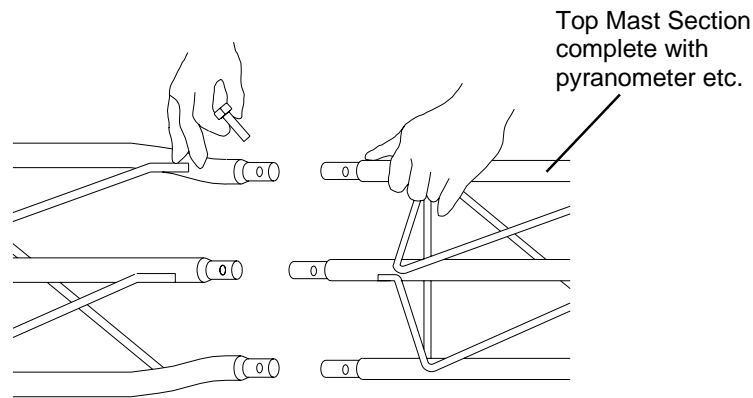

Figure 2-3 Attaching the Top Tower Section
6. Slide the whole top tower section into place on the main tower, and secure with the bolts supplied (see Figure 2-3). This will need to be done with extreme care in order to avoid altering the alignment and levelling of the pyranometer.